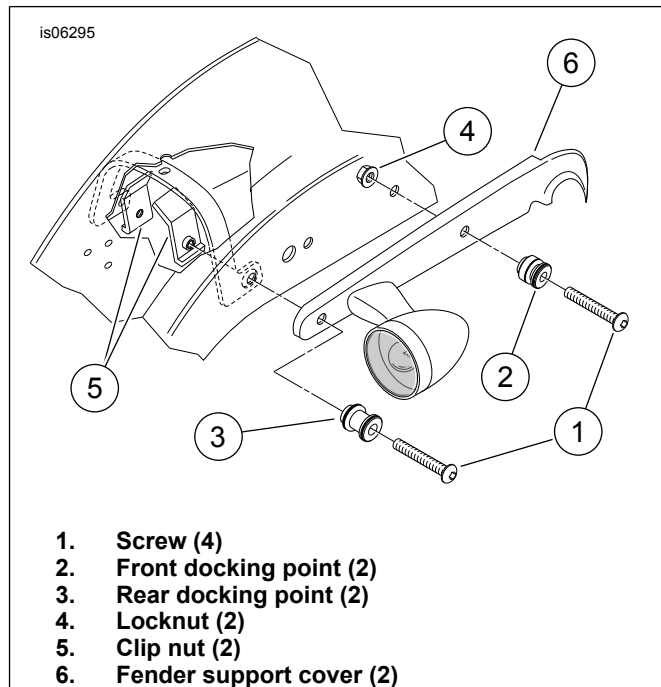

Figure 3. Docking Points - Rigid Accessories or Saddlebags Only
1. See Figure 3. Install Docking Hardware Kit **90201424** referring to instructions included in that kit.